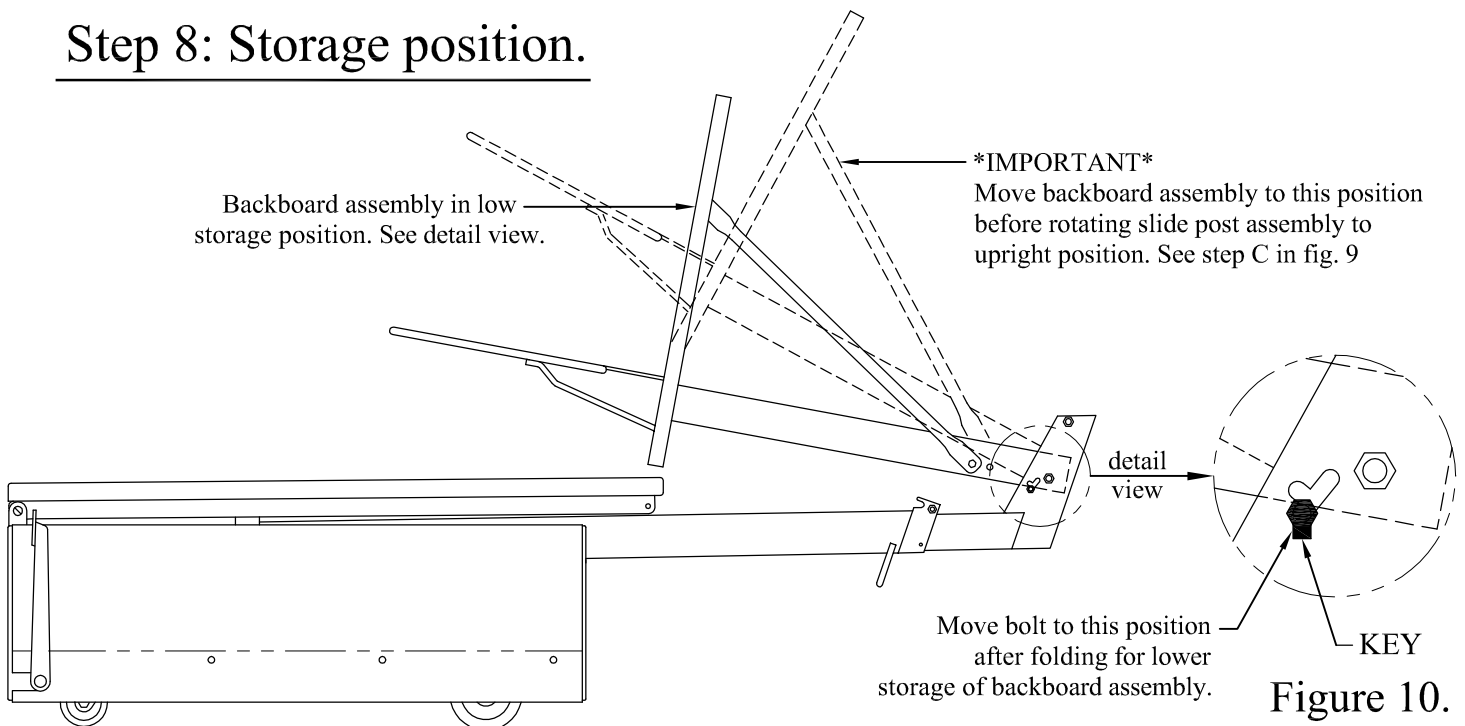

Figure 10.
(D) Carefully rotate the slide post assembly to full down position. See fig. 10